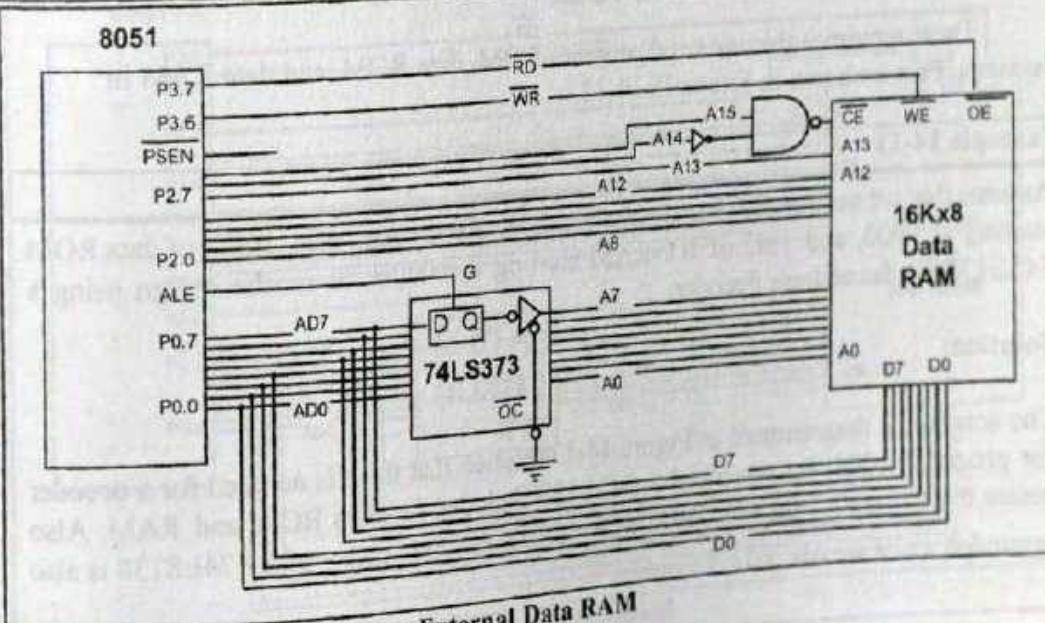

Figure 14-15. 8051 Connection to External Data RAM
To connect the 8051 to an external SRAM, we must use both RD (P3.7) and WR (P3.6). This is shown in Figure 14-15.
In writing data to external data RAM, we use the instruction "MOVX @DPTR, A" where the contents of register A are written to external RAM whose address is pointed to by the DPTR register. This has many applications, especially where we are collecting a large number of bytes of data. In such applications, as we collect data we must store them in NV-RAM so that when power is lost we do not lose the data. See Example 14-12 and Figure 14-15.
- What is the address space allocated to data RAM in Figure 14-15?